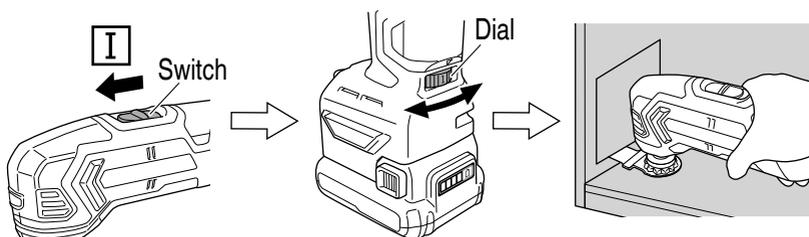

Fig. 16
1. Switch the unit on and set to a suitable oscillation speed. (Fig. 16)
2. Lightly place the application tool on the material and move the application tool forward at a pace where the movement isn't slowed. (Fig. 16)